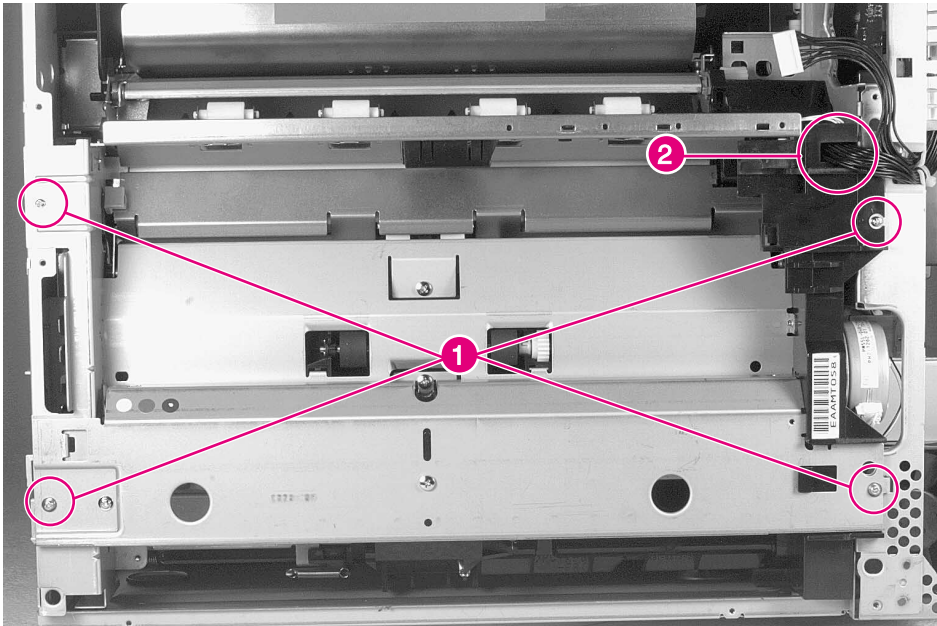

Figure 6-42 Paper Input Unit
- Paper Input Unit (PIU) (see figure 6-42 on page 310)
- 5 Remove 4 screws (figure 6-42, callout 1).
- 6 Slide the assembly out from the chassis approximately 3 inches, and unplug the connector inside the right end (figure 6-42, callout 2).